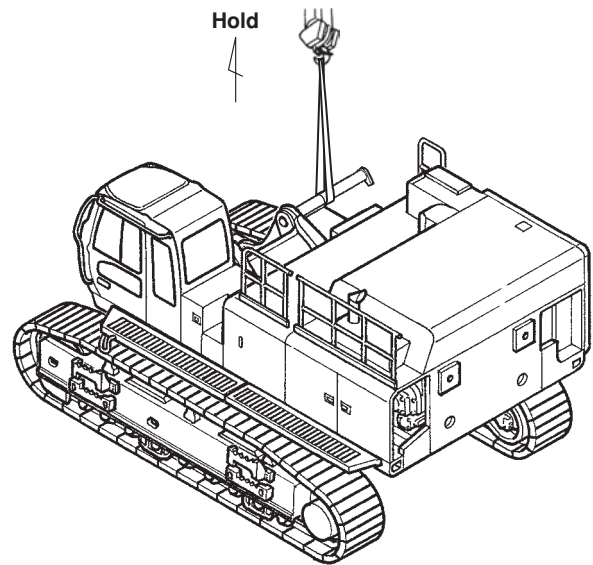

Fig. 1
- Slightly lift boom cylinder (left) 01 with wire ropes as shown in Fig. 1.